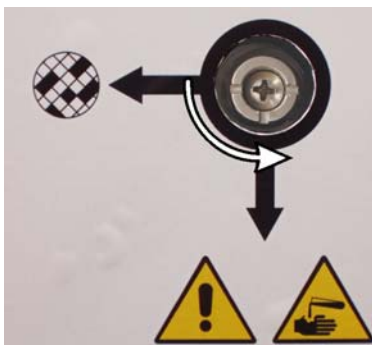

Figure 19. Vapor select valve in the external system position
2. Turn the vapor select valve a quarter turn anticlockwise to direct vapors to the vapor outlet (see Figure 19).